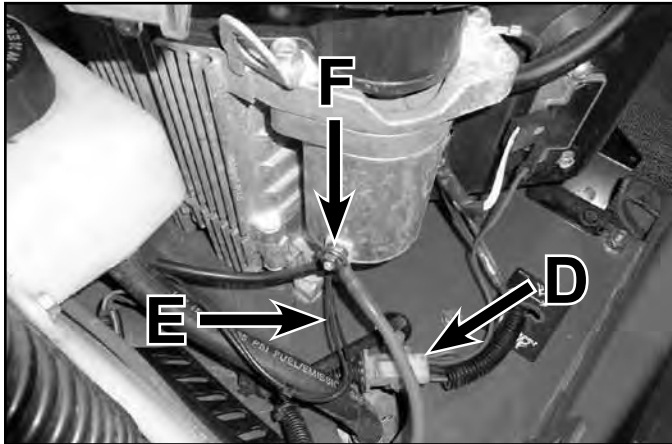

Fig. 055
2. Connect the battery ground wires (E) to the engine block, and connect the positive battery wire (F) to the engine starter motor.
3. Connect the chassis to engine harness connector (D) (Fig. 055).